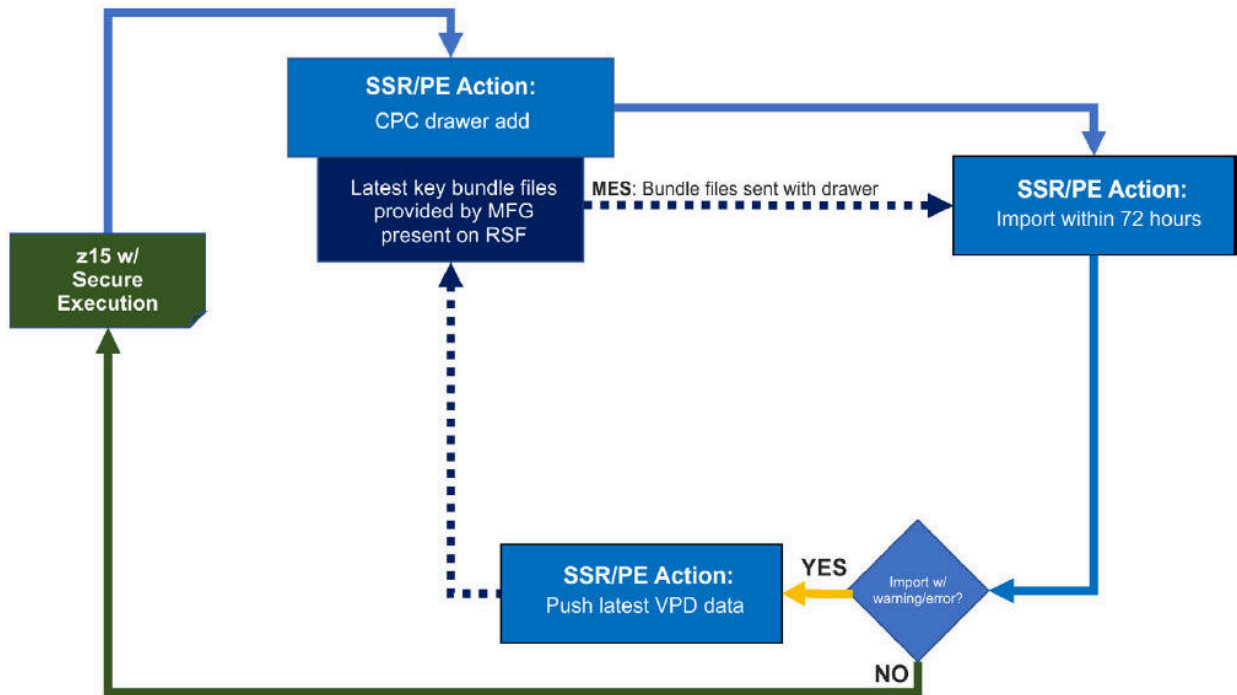

Figure 7. Service scenario flowchart - CPC drawer add
- CPC drawer add (see Figure 7 on page 184 for flowchart representation)